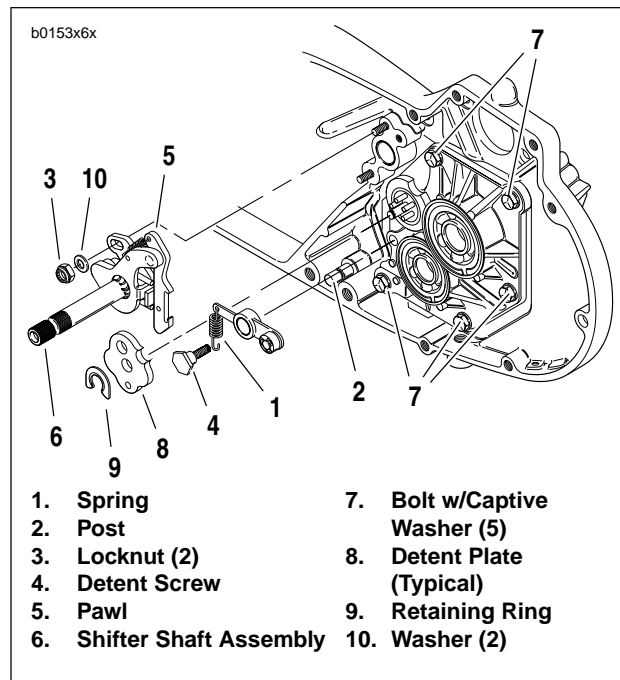

Figure 6-29. Shifter Shaft Assembly
14. See Figure 6-29. Detach spring (1) from groove in post (2).
15. Remove retaining ring (9) and detent plate (8). You will need to use a **new** retaining ring for installation.
16. Remove two locknuts (3) and washers (10) which attach shifter shaft assembly (6) to studs at transmission case. Remove shifter shaft assembly.
17. Remove five access door bolts with captive washers (7). Remove transmission assembly by pulling it straight outward, away from transmission case.